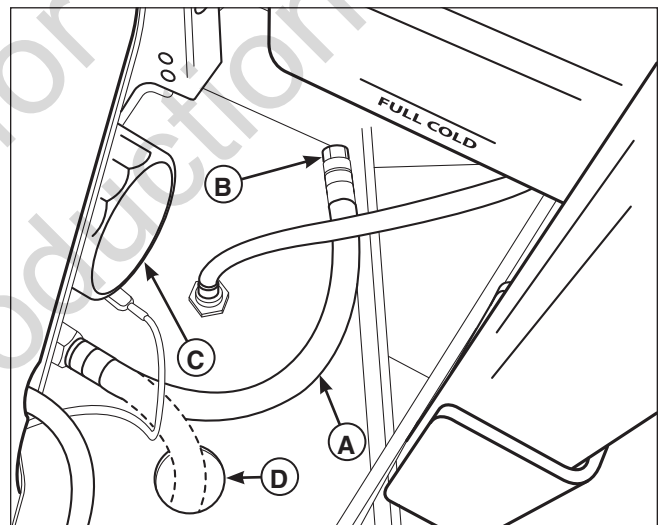

Figure 19. Engine Oil Drain
2. Place the oil drain hose (A, Figure 19) down through the hole (D) in the engine deck.
3. Place a small pan under the oil drain hose to catch the oil. Using the appropriate tools, remove the cap (B) from the drain hose and drain the engine oil into the pan.